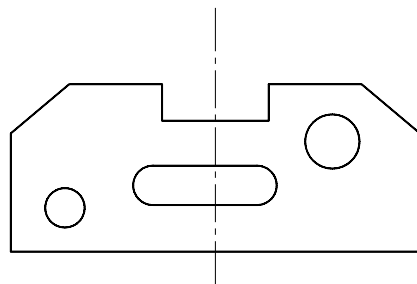

Figure 11-17 Sketch after creating circles and a slot
Next, you need to create the inner loop using the **Arc**, **Circle**, and **Line** tools at arbitrary positions. But, the profile should be similar to that given in Figure 11-17. Then, you need to apply the constraints.
2. Draw a slot using the **Center, Start, End** option of the **ARC** tool and the **LINE** command. The sketch after drawing the circles and slot is shown in Figure 11-17. You can also draw the profile of the slot using the **PLINE** command. However, the sketch in this tutorial has been drawn using the **ARC** and **LINE** commands.